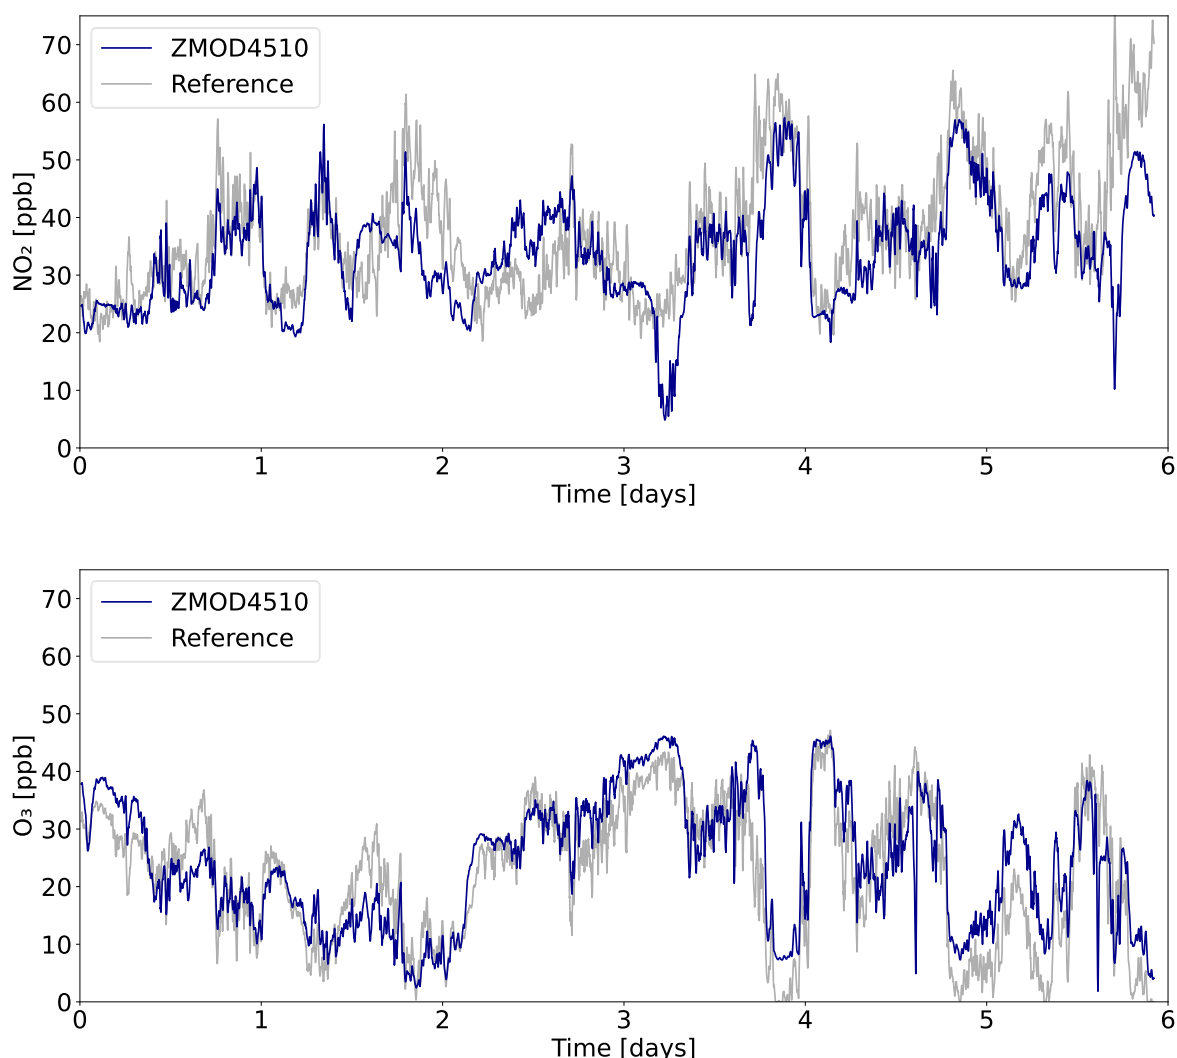

Figure 5. Nitrogen Dioxide and Ozone Course Compared to a Reference Instrument Based on Chemoluminescence
The ZMOD4510 operates with an optimized temperature profile to detect signatures from gases. These unique signals are supplied to a highly trained machine learning system that uses of embedded artificial intelligence (AI) technology. These algorithms can differentiate and report nitrogen dioxide (NO₂ O₃ mode) and ozone concentrations (NO₂ O₃ mode and ULP O₃ mode). They are tailored to real-world applications with the appropriate concentrations. Figure 5 shows a typical course of nitrogen dioxide and ozone concentrations determined with the ZMOD4510 in a real-world environment with selective reference instrumentation.